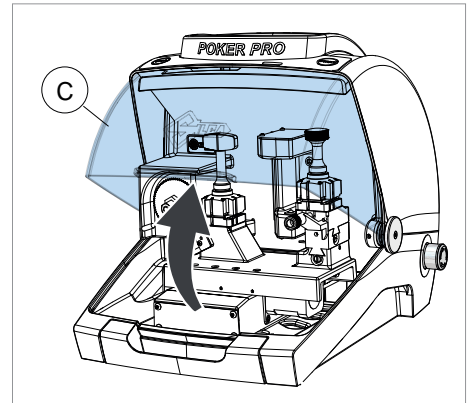

Fig. 5
The shield (C) must be raised in order to fit keys for cutting or carry out other operations (Fig. 5).